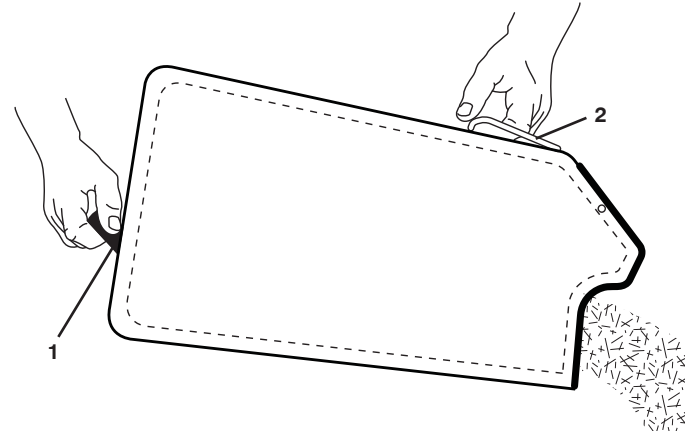

Figure 17
1. Lift up on grass catcher using the frame handle (Figure 17).